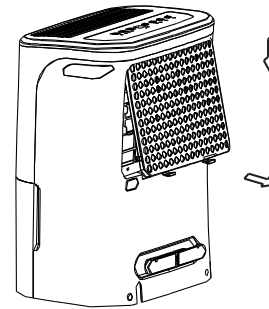

Fig. 8
- To remove the filter, pull filter outwards (See Fig.8).